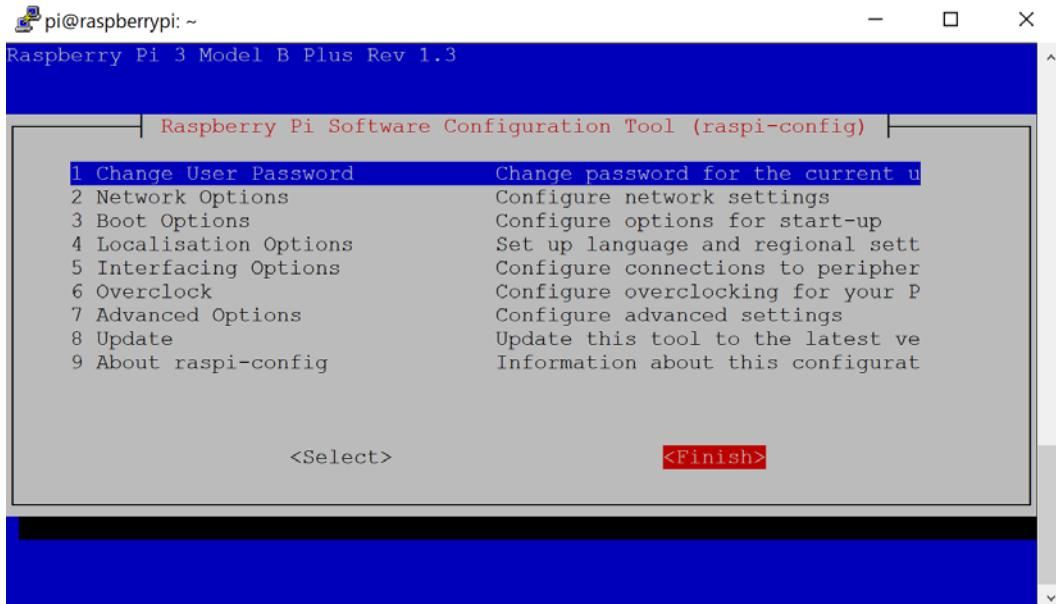

Figure 4.9 – Select Finish
1. Use the **Tab** button to get to the **Finish** item (*Figure 4.9*) and press **Enter**: